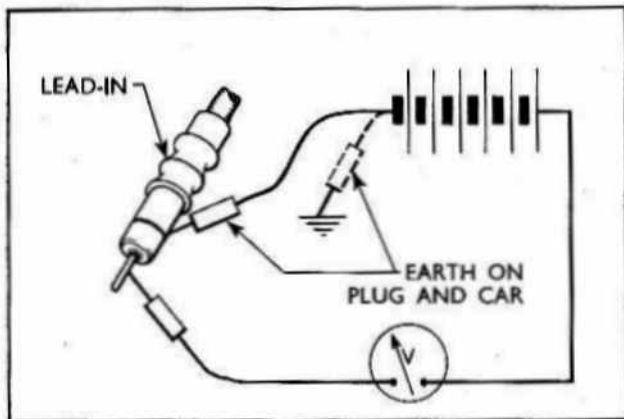

Fig. 591
- 1 Connect a suitable voltmeter and test battery in series with two test prods, as shown in Fig. 591. Check the battery voltage by momentarily connecting the two test prods.
- 2 Remove the aerial lead-in plug from the socket in the right-hand side of the receiver, and touch one test prod on the plug centre contact and the other prod to the outer casing (see Fig. 591). Any reading shown on the voltmeter would indicate a short circuit between the aerial or lead-in, and earth. Check the aerial and lead-in independently.